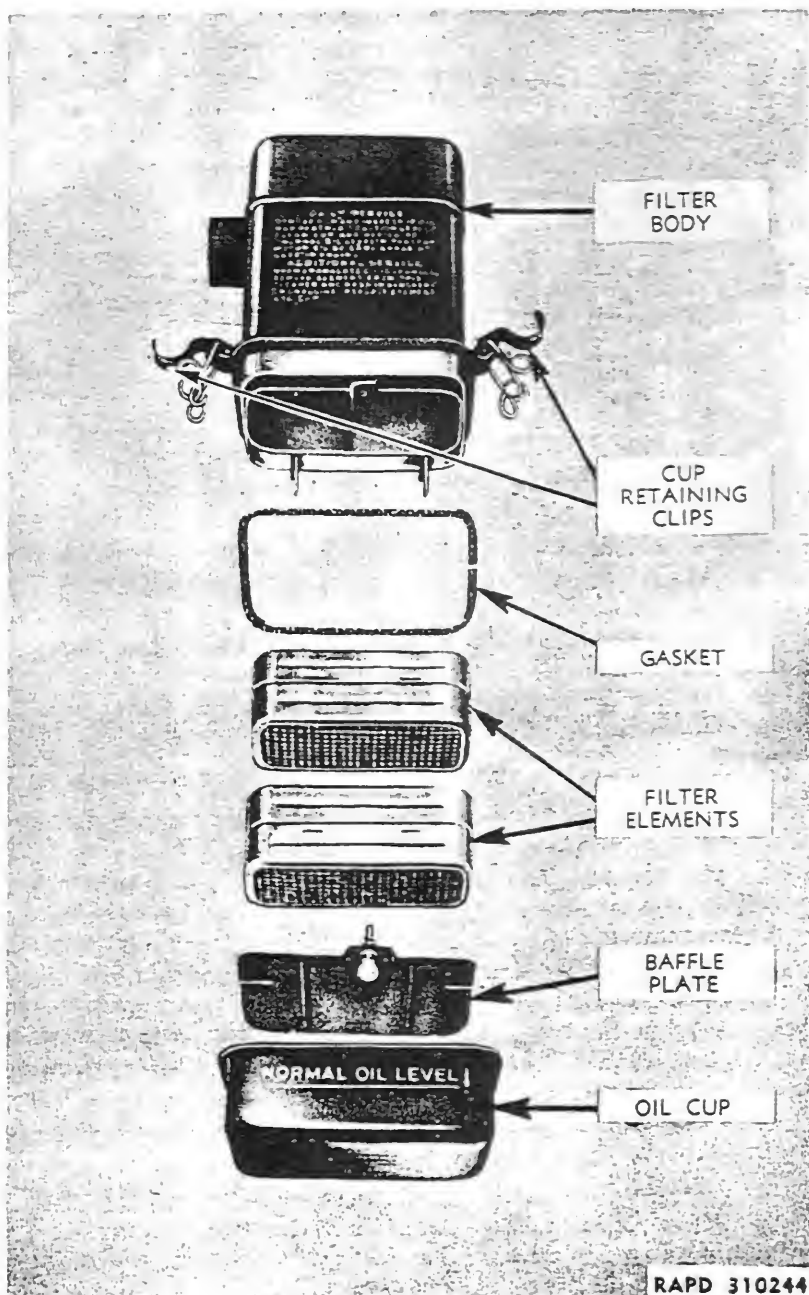

Figure 47—Air Cleaner, Disassembled
(5) Install oil cup, making sure that retaining spring clips are fully engaged in lip of oil cup and hold oil cup securely to cleaner body.
(6) Oil bath air cleaners on earlier models are of "round" type, oil cup being secured to body with a metal clamp band and thumb screw. When oil cup is removed on this type of cleaner, the baffle plate will come out with the cup. Make sure that baffle plate is correctly installed and that gasket is in place when installing cup.
c. **Maintenance** (fig. 47). The rectangular-type oil bath air cleaner is provided with two filter elements, retained in filter body by means of the baffle plate. If daily check reveals excessive accumulation of dirt and grit in oil and cup, filter elements must be removed and cleaned. *NOTE: Check several times daily under extremely dusty or sandy conditions.*
(1) Hold oil cup with one hand and release (unlatch) oil cup retaining spring clips; remove cup.
(2) Unscrew baffle plate thumb screw and remove baffle plate.
(3) Filter elements may "bind" in cleaner body. If so, rap side of body with hand to loosen them; or, if necessary, withdraw elements from body with pliers or a hooked wire.
(4) Check for presence and condition of gasket above the two filter elements (in filter body); also for oil cup gasket.